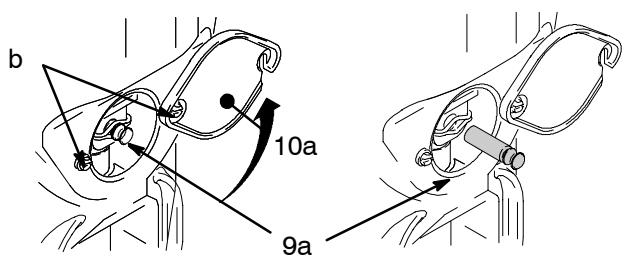

Fig. 18
1. Flush pump (13).
3. Fig. 18. Loosen two screws (10b) and rotate cover (10a).
2. Fig. 18. Install pump pin (9a). Verify retainer spring (9b) is in groove of pump pin.
8. Fig. 18. Rotate cover (10a); tighten screws (10b).